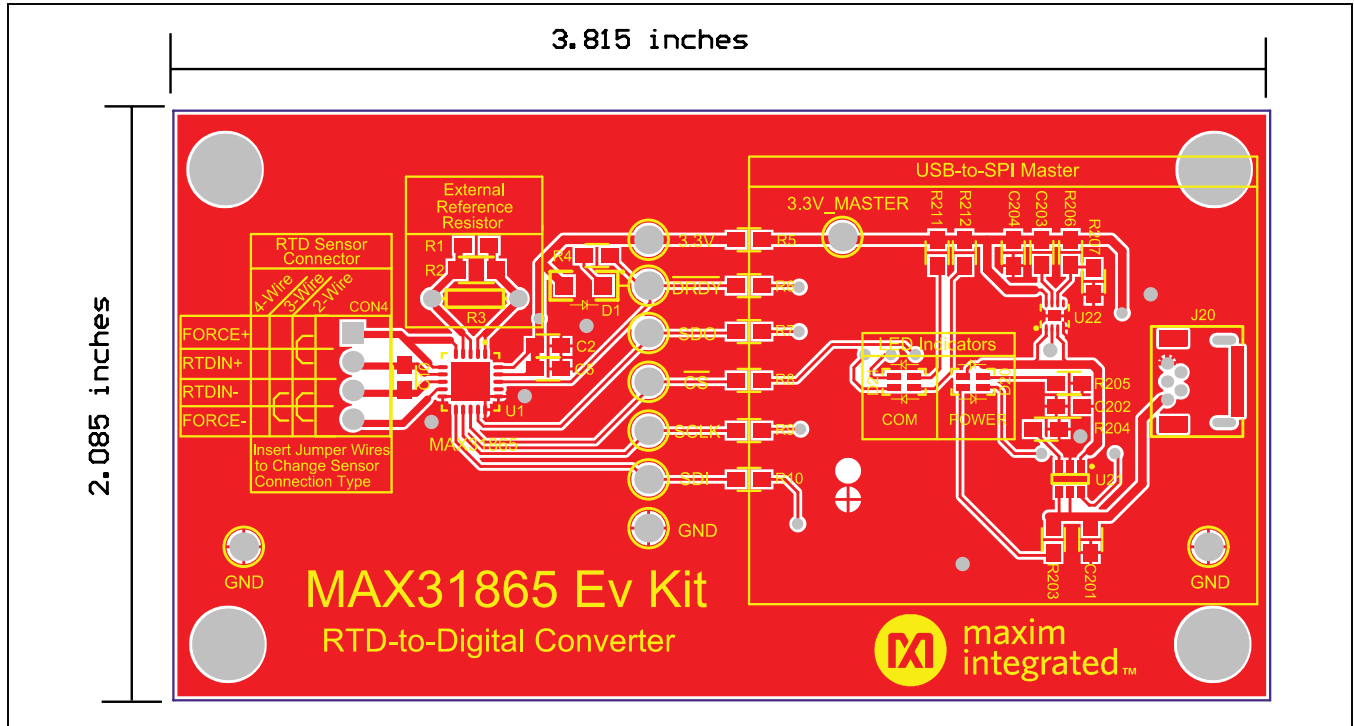

Figure 6. MAX31865 EV Kit PCB Layout—Top
- 1) Verify the two jumper wires (included) are properly secured in the terminal block in accordance with the 2-wire RTD Sensor Connector diagram on the PCB’s silkscreen (Figure 6).